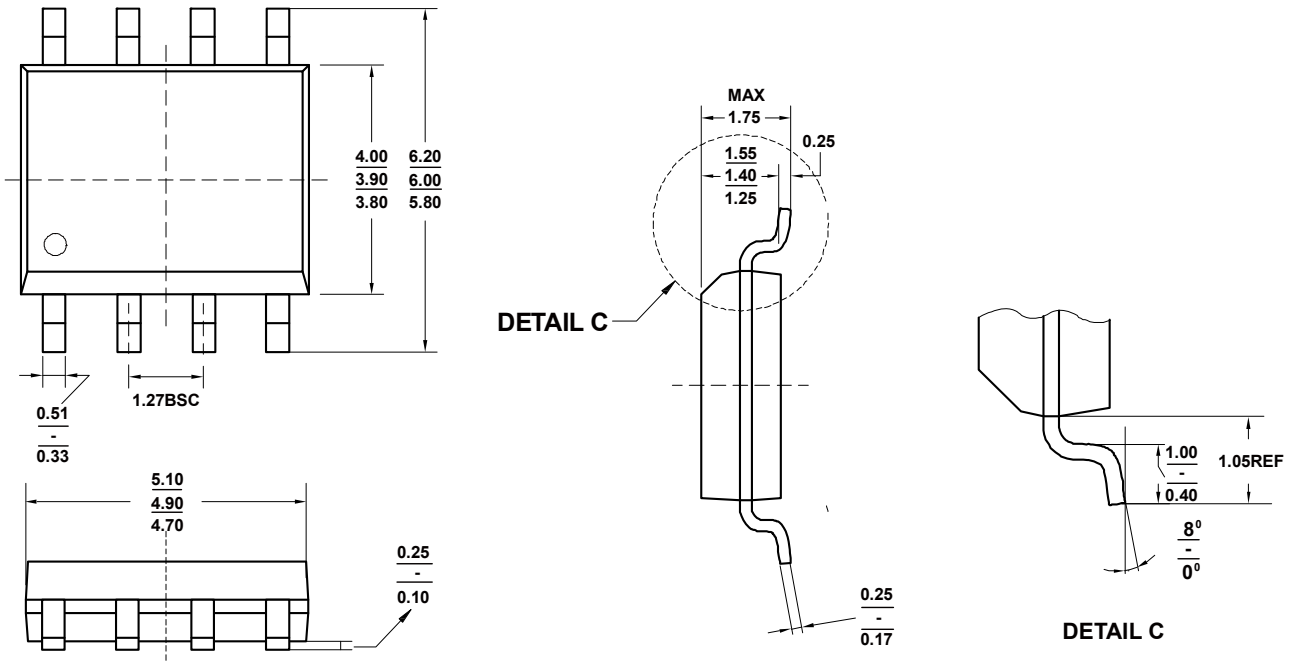
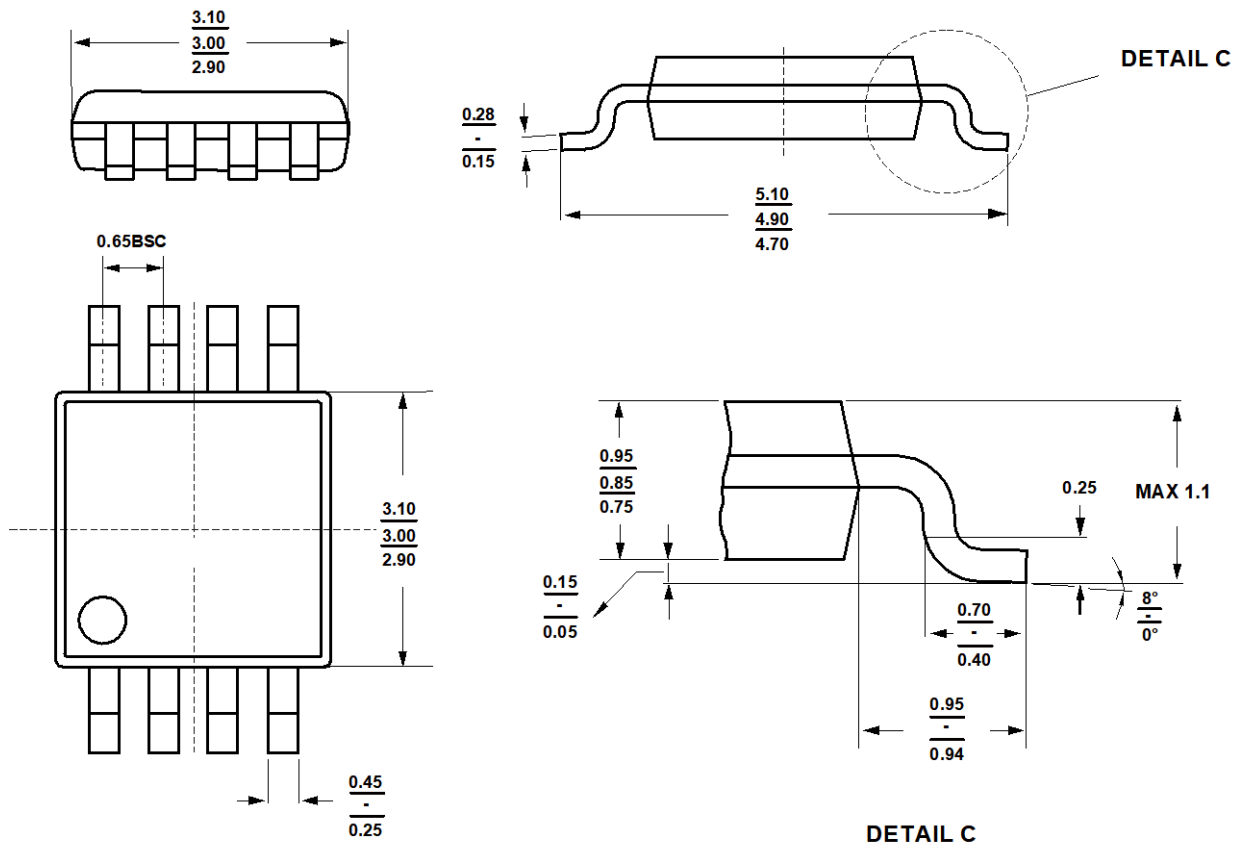
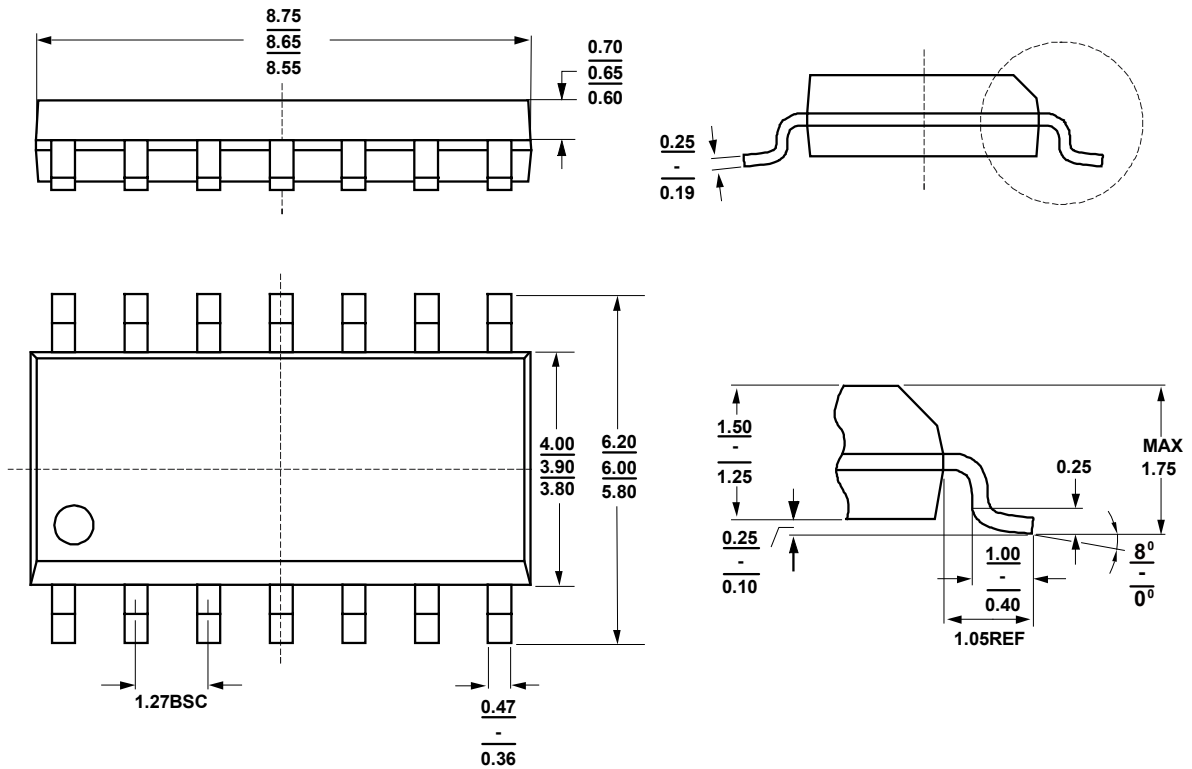
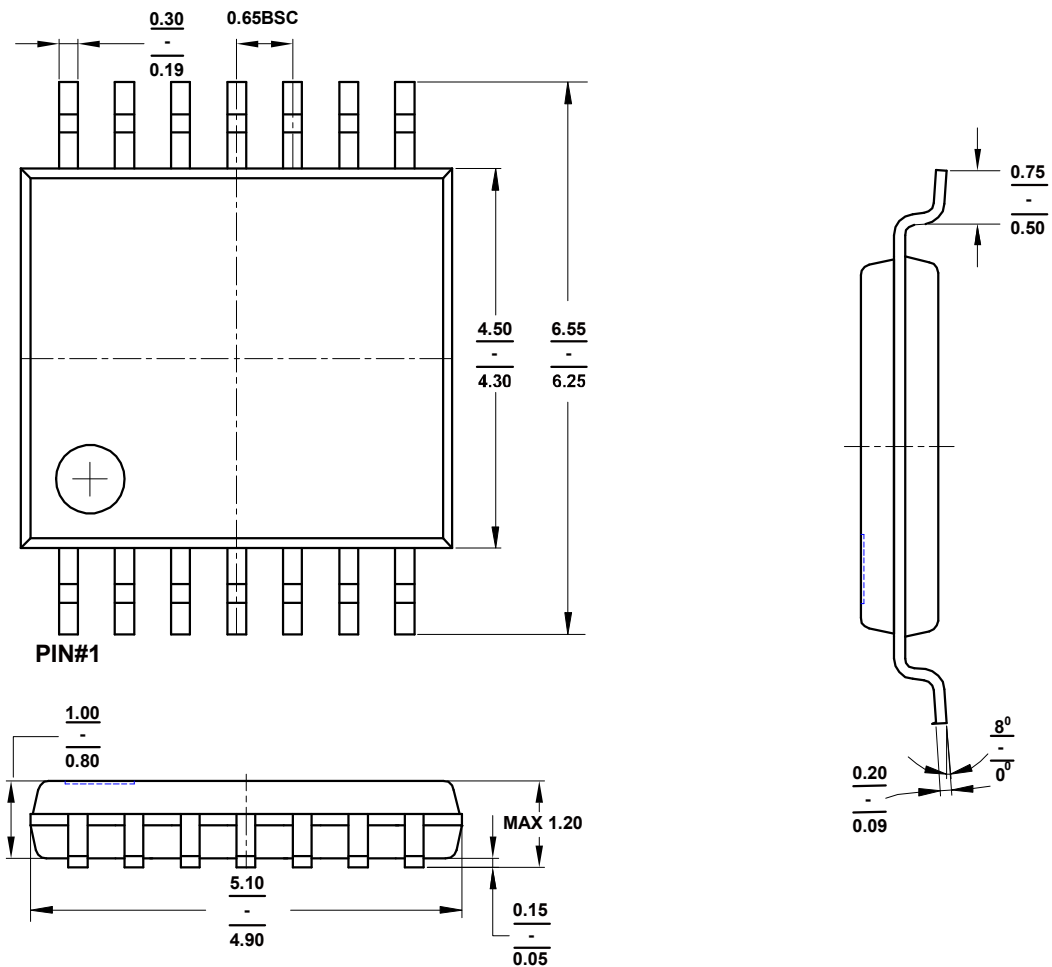

Figure 46. 8-Lead SOIC Package Dimensions shown in millimeters
Figure 47. 8-Lead MSOP Package Dimensions shown in millimeters
Figure 48. 14-Lead SOIC Package Dimensions shown in millimeters
Figure 49. 14-Lead TSSOP Package Dimensions shown in millimeters
- Place the external components as close to the device as possible. As illustrated in Figure 46, Figure 47, Figure 48 and Figure 49, keeping  $R_F$ ,  $R_G$  and  $C_F$  close to the inverting input minimizes parasitic capacitance.